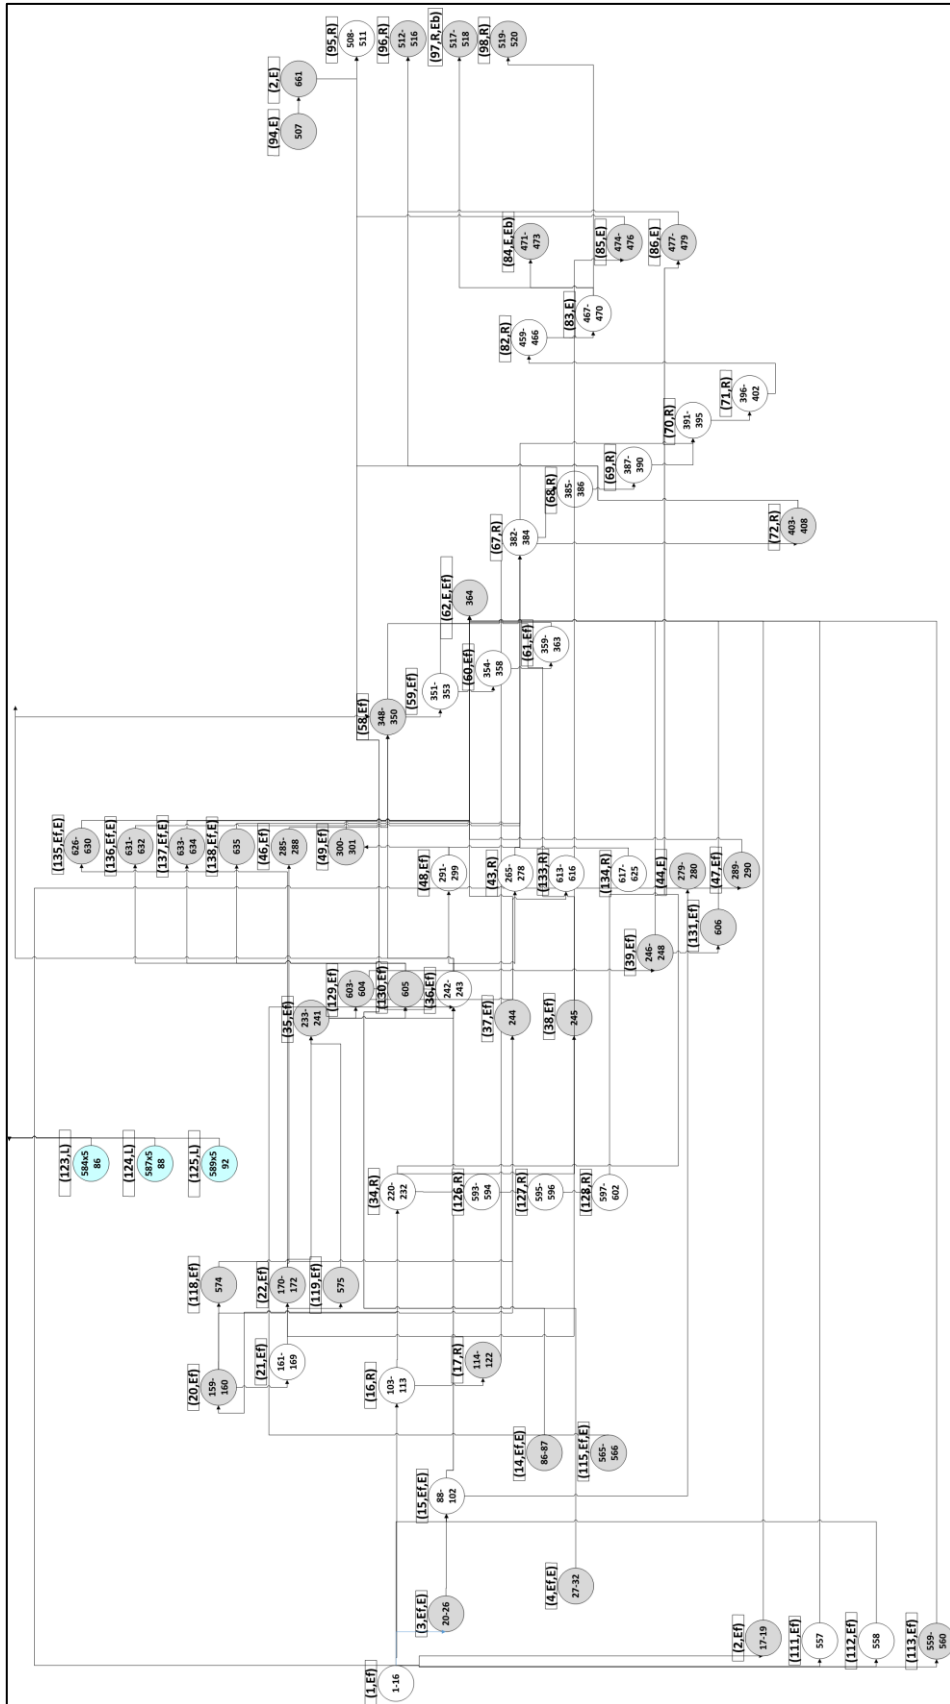

Figure 4.3 The joint precedence graph
In the type of assembly lines, each model has its own predecessor relationship which can be described by precedence graph. All of the precedence graphs of the model can be combined into a single predecessor diagram, called a joint precedence graph. The operator does their job in parallel with both two-sided assembly lines. There are several task types to give the direction in precedence diagram. It is grouped into five task types are right (R), left (L), either (E), either front (EF) and either back (EB) with two-sided assembly lines. The joint precedence diagram can be seen in Figure 4.3.